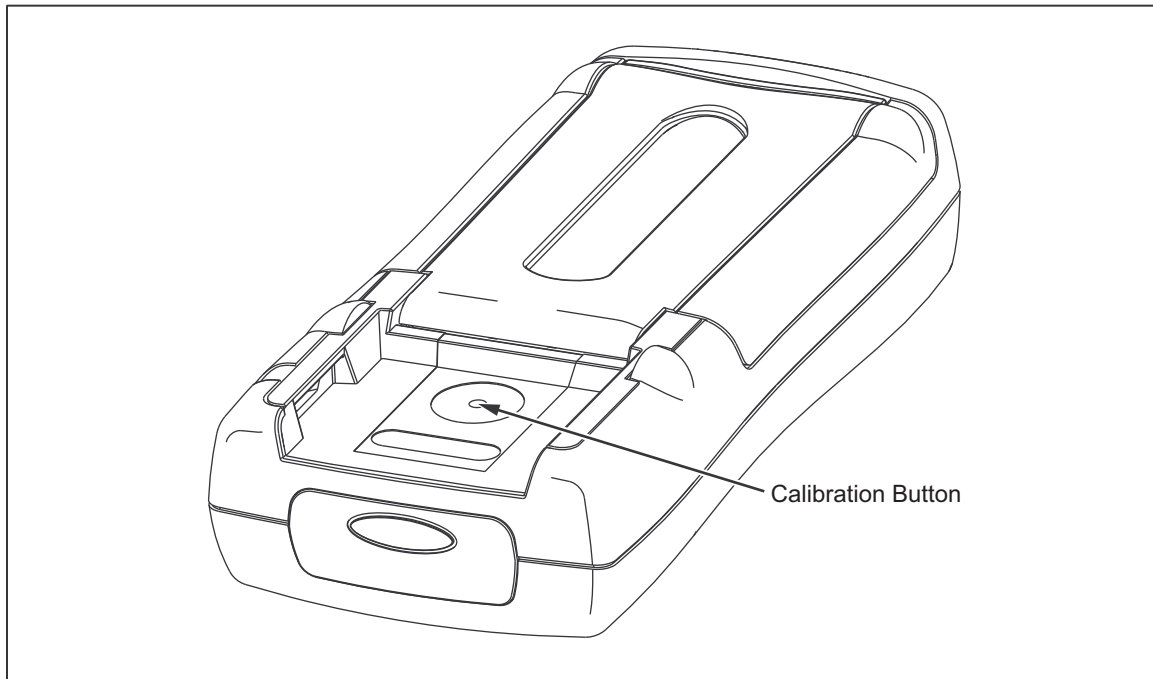

Figure 11. Calibration Button Access
3. Press and hold the Calibration Button for approximately 2 seconds. The unit will beep (see Figure 11).
4. Press and hold the Calibration Button for approximately 2 seconds. The unit will beep (see Figure 11).
3. Press and hold the Calibration Button for 2 seconds (see Figure 11). The unit will beep.
4. Press and hold the Calibration Button for 2 seconds (see Figure 11). The unit will beep.